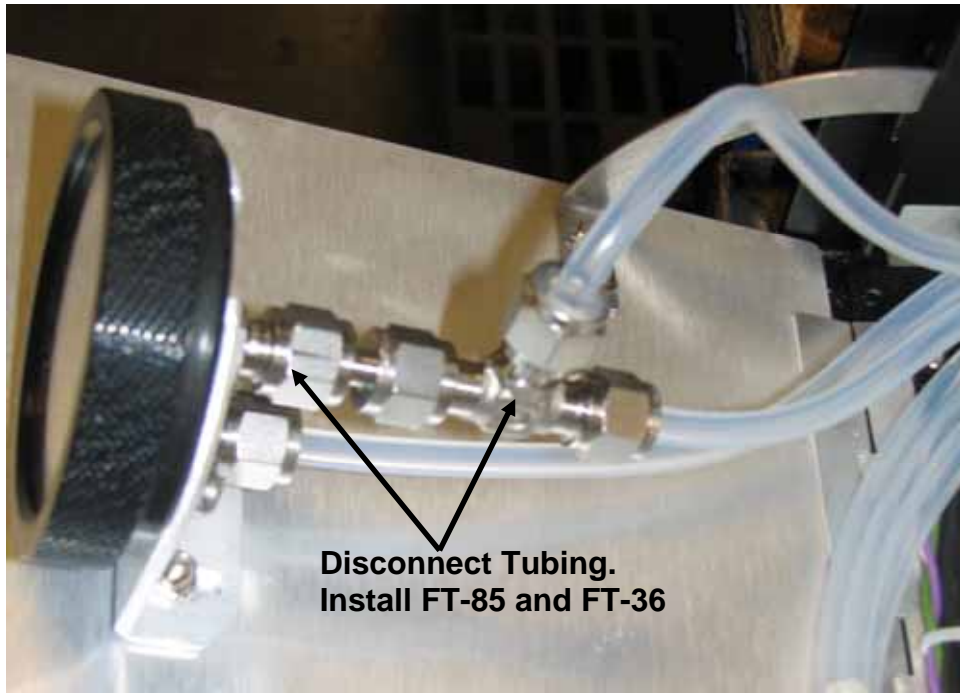

Figure 3
6. Disconnect the tubing that goes to the top fitting on each of the sample filters located on the front panel. Remove the two FT0000085 and the two FT0000036 fittings from the kit. Take each one of the FT0000036 fittings and remove one set of nut/ferrules from one of the "RUN" sides of the fitting. (See figure 3)
7. Put the nut and ferrules onto the FT0000085 and install this into the other “RUN” fitting on the tee, make sure to tighten to 1¼ turns. (See figure 3). Install this onto the front panel fitting that was disconnected in step 6. (See figure 3)